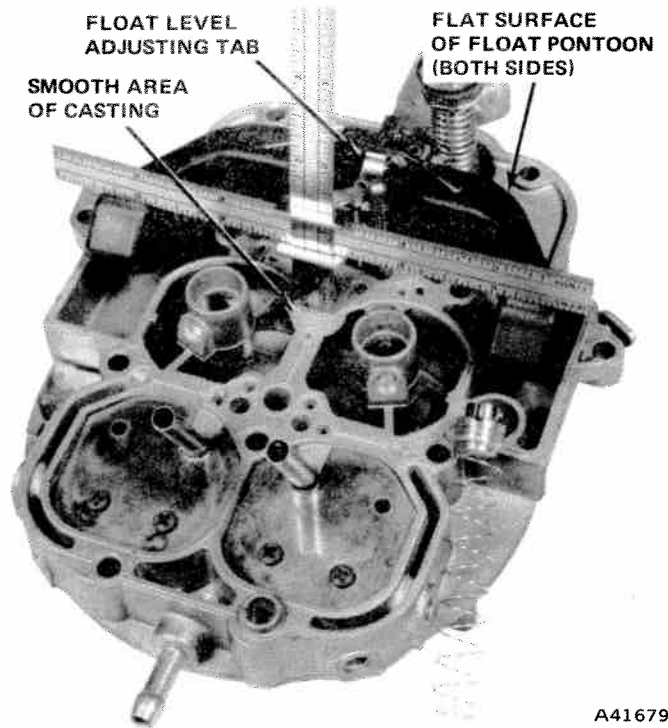

Fig. 4-70 Float Adjustment
(1) Invert the air horn assembly and remove gasket.
(2) Measure distance from float pontoons to air horn casting using a T-scale (fig. 4-70).